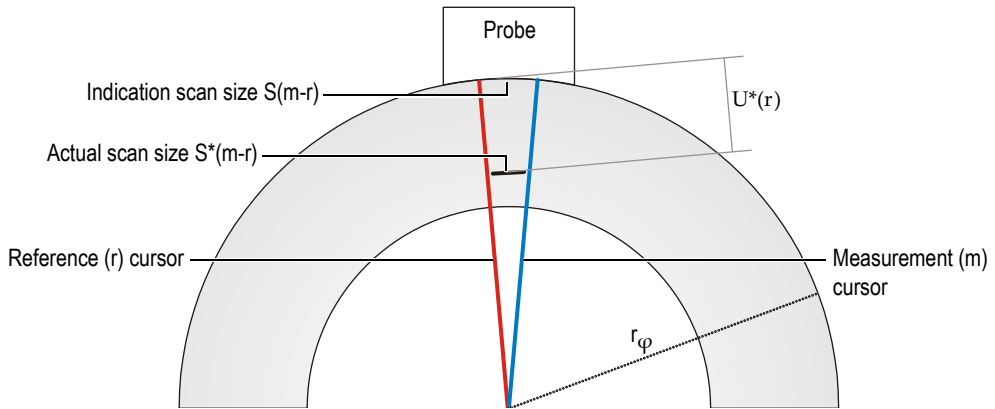

Figure 10-8 The actual scan size of a defect
In the defect sizing example used in the following procedure, you can use the **Excel Exchanges** to calculate in Excel the actual scan size $[S^*(m-r)]$ of a defect in a cylinder (see Equation (1) on page 452 and Figure 10-8 on page 453), using the $S(m-r)$ and $U(r)$ values provided by TomoView.